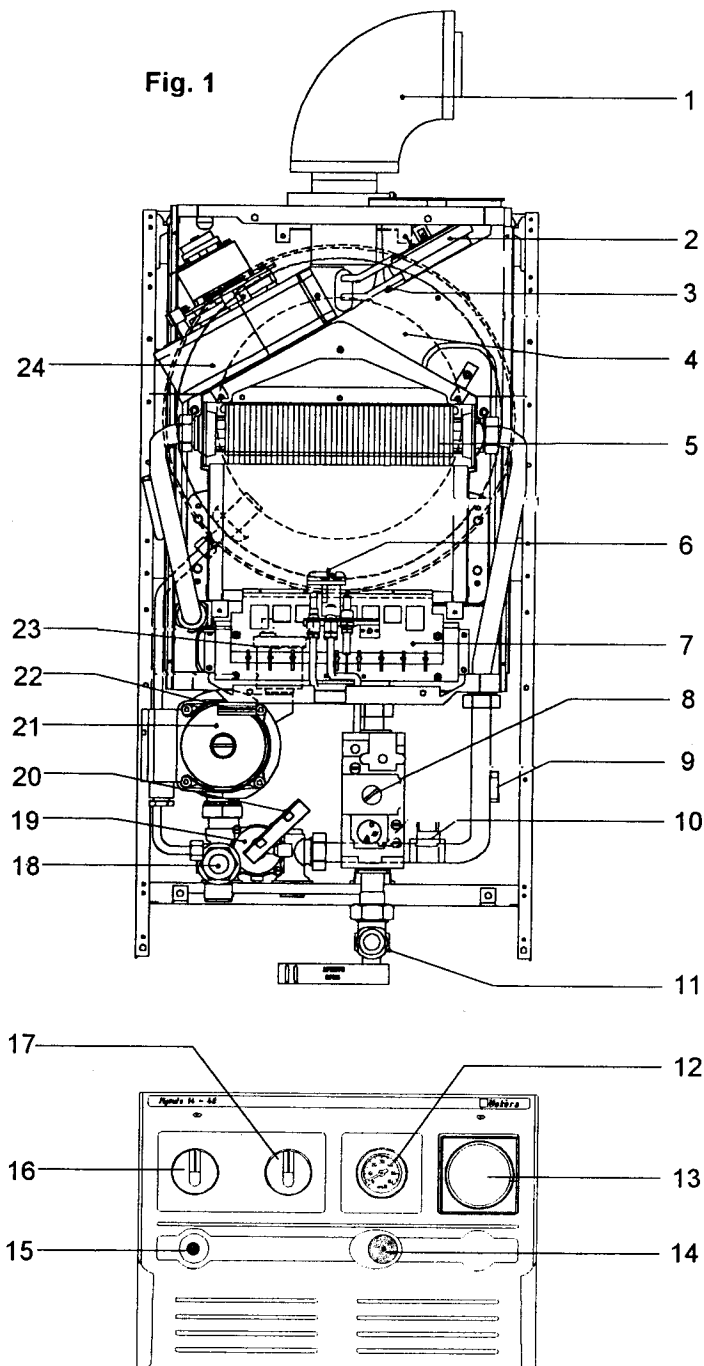
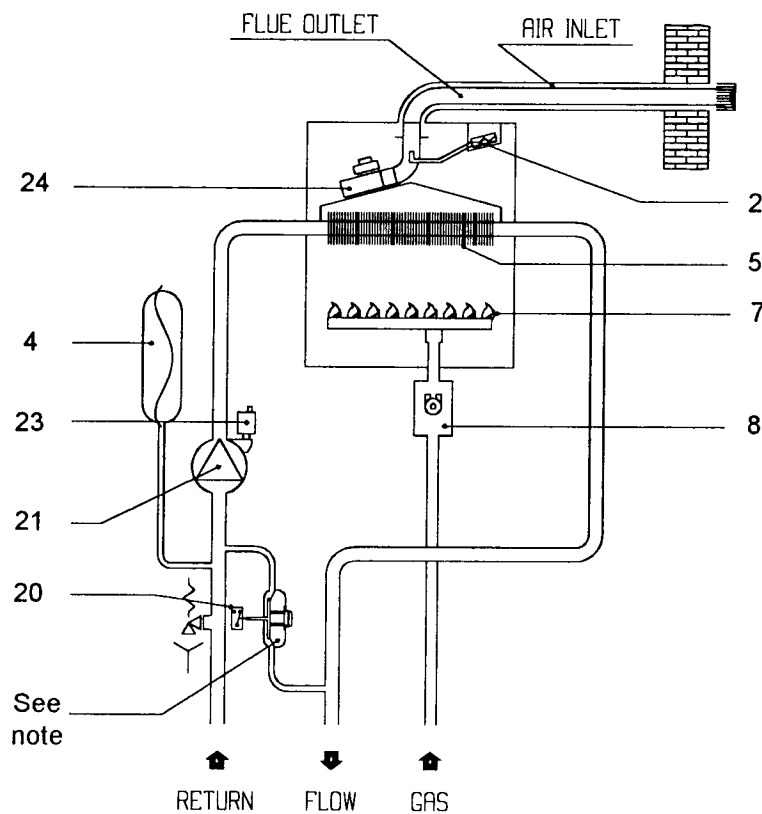

Fig.1 General Layout
Fig. 2
2.1 Fig. 1 illustrates the general layout of components. Fig. 2 illustrates the operating principles described below.